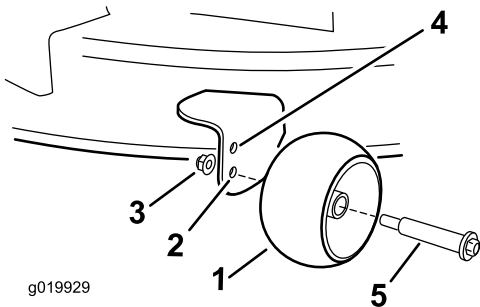

Figure 18
- Upper hole—use this position with the mower deck in the 63 mm (2-1/2 inches) and below the height-of-cut positions (Figure 18).
- Lower hole—use this position with the mower deck in the 76 mm (3 inches) and above the height-of-cut positions (Figure 18).